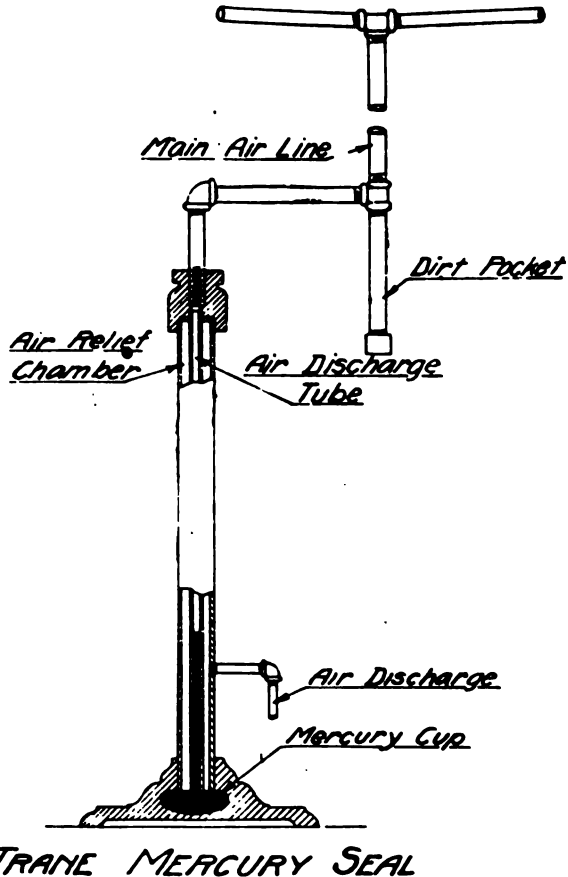

Fig. 101.—Trane Vacuum Mercury Seal System.
A. It is called a mercury seal. The general construction is shown by Fig. 101. The air line is connected into the top of the seal, the pipe extending through the chamber of it to a point near the bottom. At the bottom of the device is a casting having a hollow cup on the top side which holds the mercury and into which the air line projects. From the side of this chamber a pipe leads to the atmosphere through which the air is exhausted.